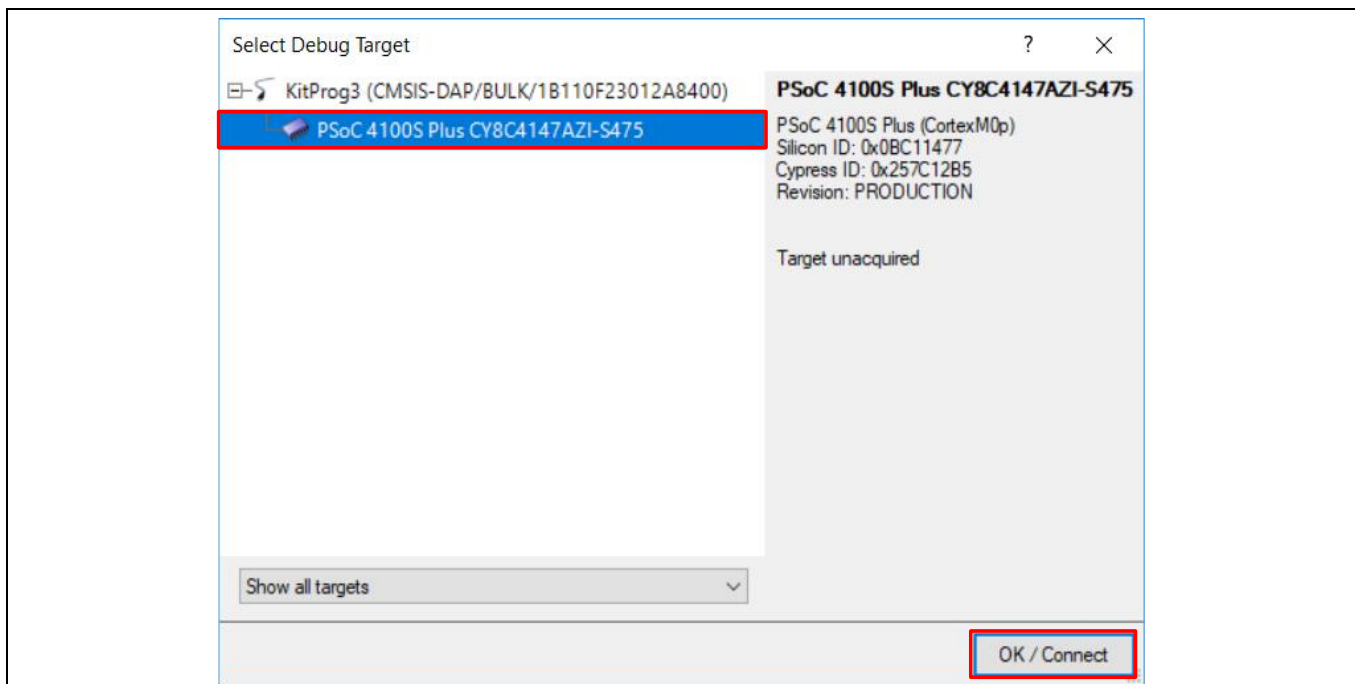

Figure 49 Connecting to a device
2. In the **Select Debug Target** dialog box, click **Port Acquire**, and then click **Connect**, as shown in Figure 49. Click **OK** to close the dialog box.